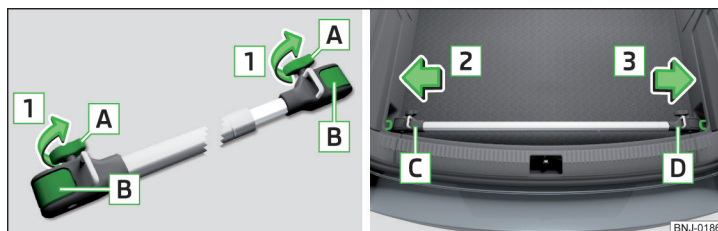

Fig. 118 Install crossmember: Loosen the screws and unlock brackets / place crossmember on the lashing eyelets
- To **install** complete detach the **A** screws in the direction of arrows **1** and pull out partially. The brackets **B** are unlocked » Fig. 118.